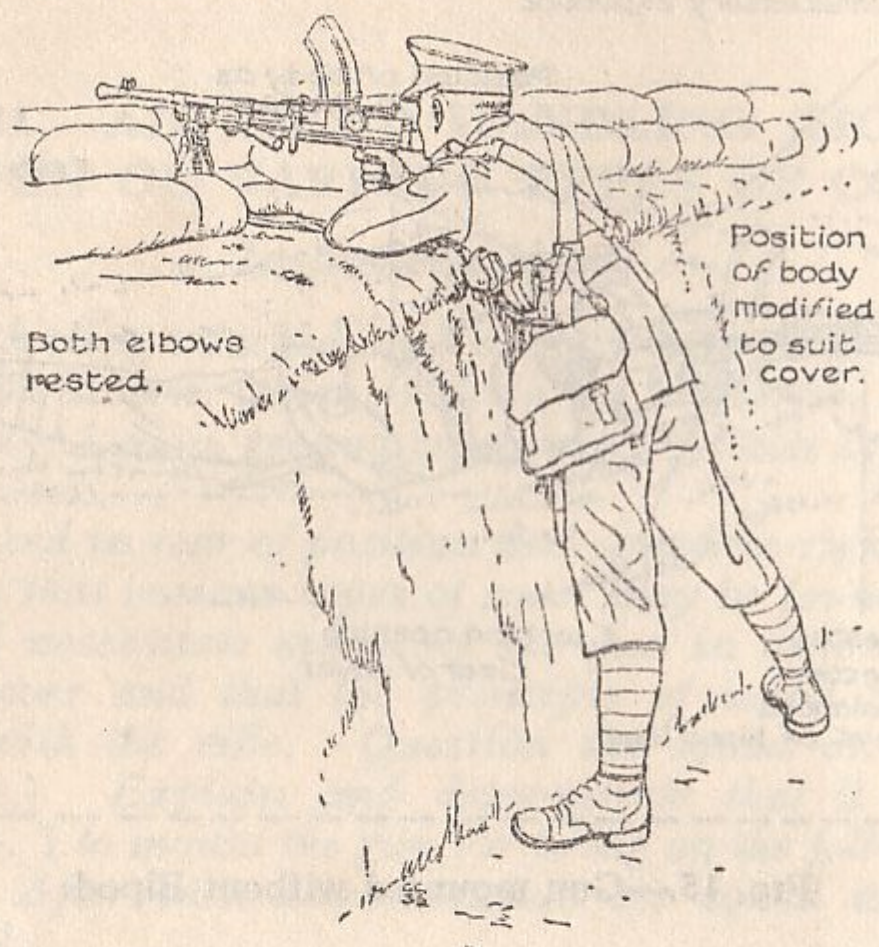

FIG. 17.—Side View.
i. With bipod (Figs. 17 and 18).